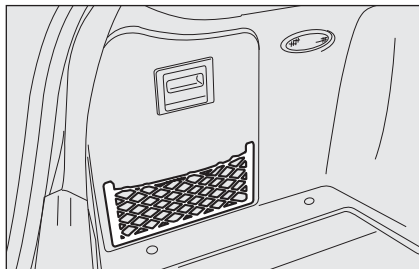

fig. 13
- **fig. 13** - version with side lid (for versions/markets, where provided)